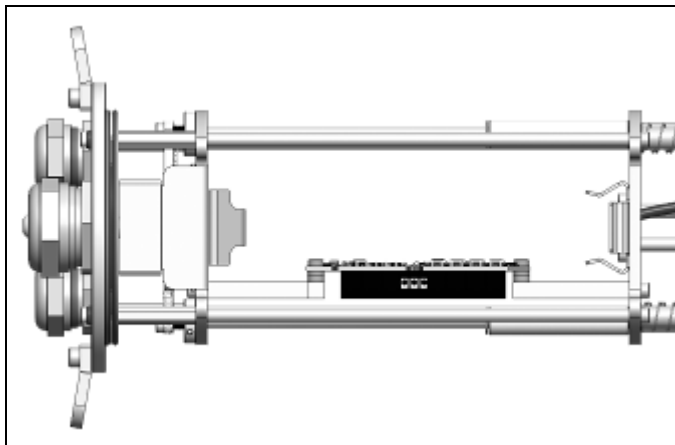

Figure 51: Mounting of the industrial PIF (top view)
5. Fix the Industrial PIF with the screws (M3x5) as shown in **Figure 51**.